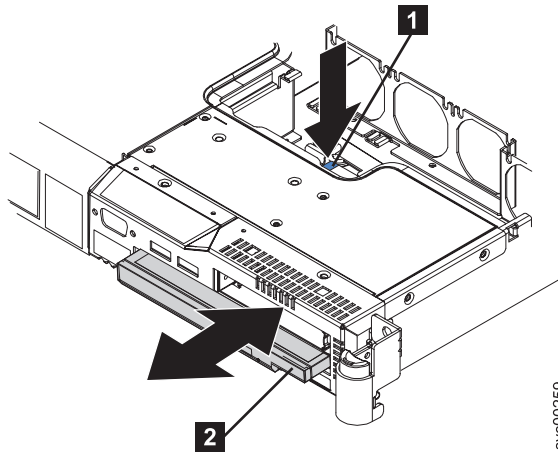

Figure 207. SAN Volume Controller 2145-8G4 dummy CD/DVD drive
3. Release the dummy CD/DVD drive **2** by pressing the release button **1** and sliding the drive out approximately 2 cm (1 in), as shown in Figure 207 on page 224. It is possible to push the drive from the back to start it moving. Do not remove the drive from the casing.